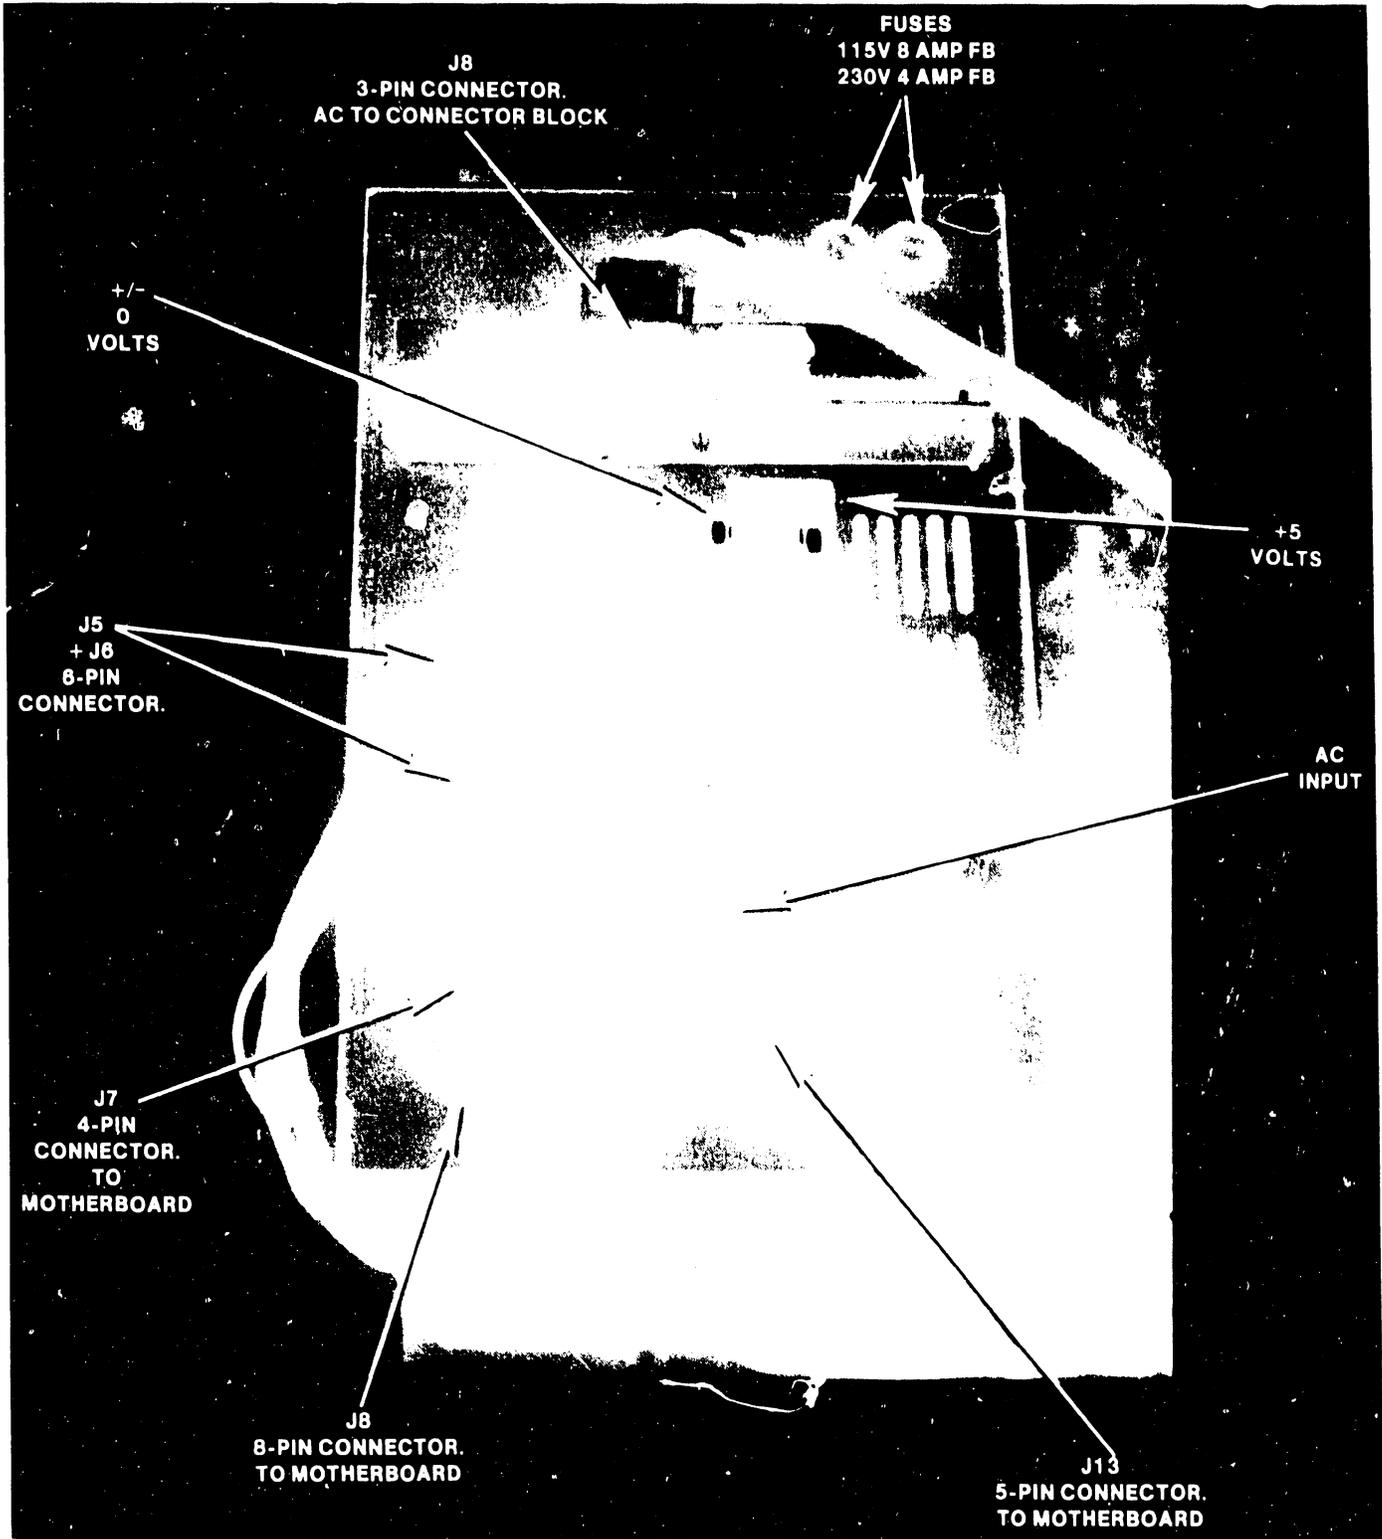

Figure C-21. Rear View of VS-25/45 Power Supply
- Remove the ac and dc cables from the drive. Disconnect the dc cable from J5 of the SPS450 Switching Power Supply (figure C-21) and remove the cable from the system. A new dc cable will be used for the NEC drive. The drive does not use ac power.
- j. Connect the dc power cable from the disk drive to the 6-pin connector J5 on the switching power supply. (Figures C-21 and C-22.)